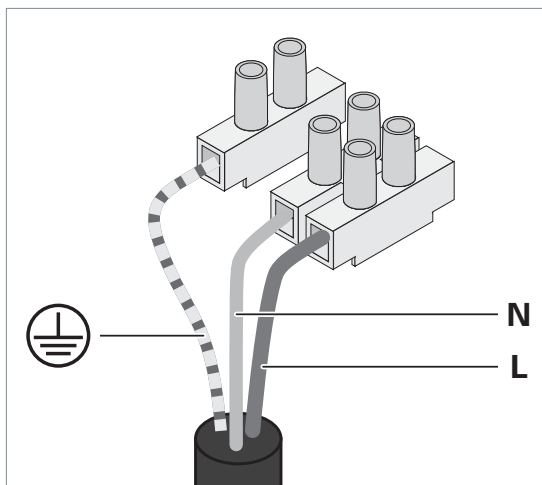

Fig. 14: Connecting the suspended luminaire.
- Connect the luminaire to the terminal, see Fig. 14.